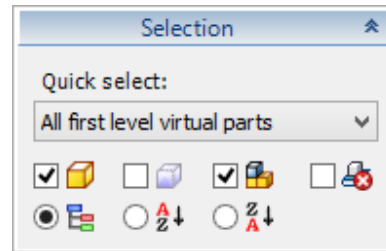

Figure 12: New view types & Document type filters
- New 'View Types' (Figure 12). You can now view the referenced documents in either a flat or sorted view. Of course you can still use the hierarchal view.
- New Document type filters, including virtual components. (Figure 12)